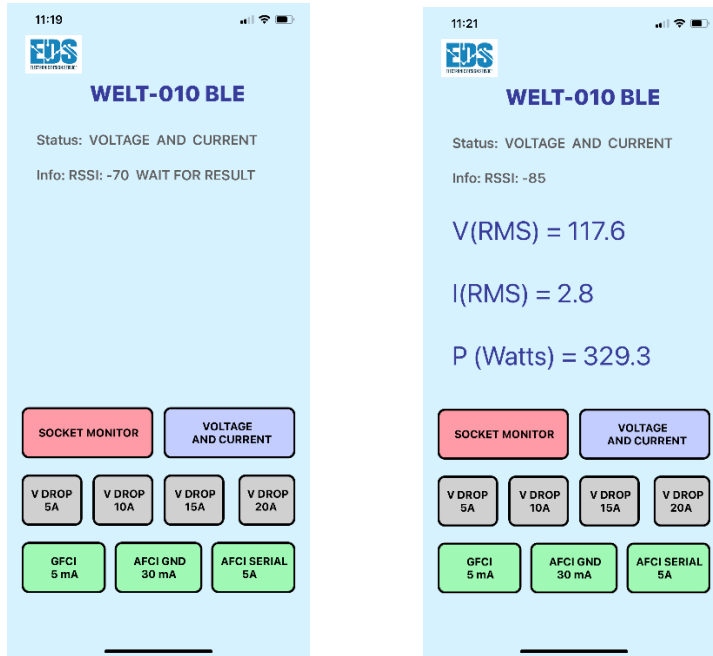

Figure 16 Voltage and Current Measurement Screenshots
**Voltage, Current and Power Measurements** (see Figure 16):
- Continuous Test Results (Voltage RMS, Current RMS and Power (VA))